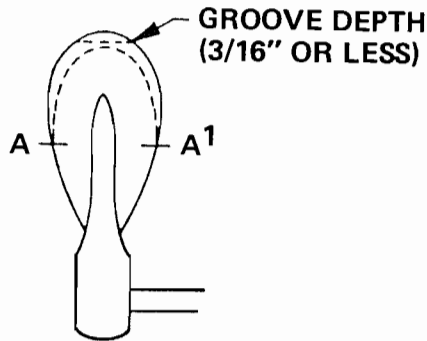

Figure 9-1. Tear Drop Hammer Head — Groove Removal
- a. Examine the condition of the Hammer Heads. If the grooves are not more than  $3/16''$  (4.762mm) deep, they can be reshaped by sanding off the outer surface. To accomplish this, construct a shaping tool from a 6'' (152.4mm) length of wood to which has been cemented a piece of very rough sand paper. Beginning at Points A and A1 work upward toward the crown — taking off enough of the outer layer of felt to remove all trace of the groove (Figure 9-1).